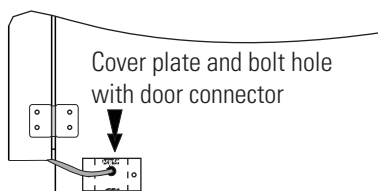

Figure 1-4. Cover Plate
1. Remove the cover plate securing the door cord from the incubator to be on top. See Figure 1-4. Disconnect the plug from the connector.